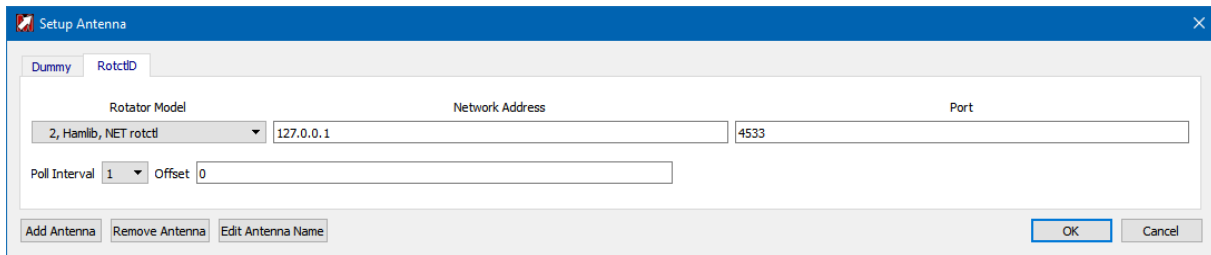

Figure 116 – Defining rotctID connection to Rotator
**Rotator sharing** is only done via manually configuring rotctld (Figure 116) and has not been tested. Volunteers wanted!